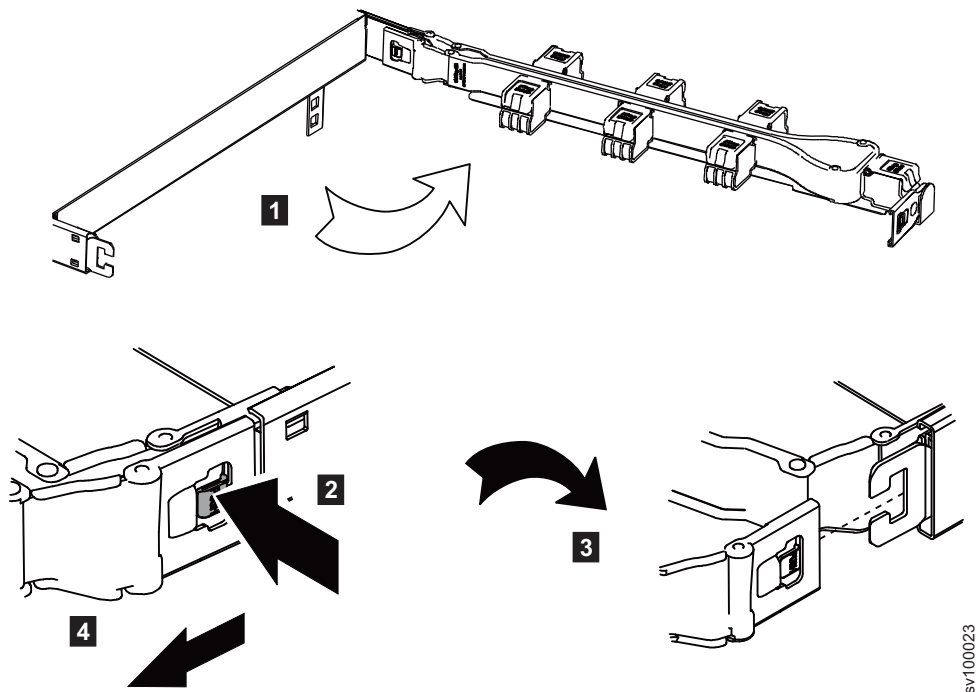

Figure 5. Removing the outer member of the cable-management arm
4. Release the outer member, as shown in Figure 5 on page 15.